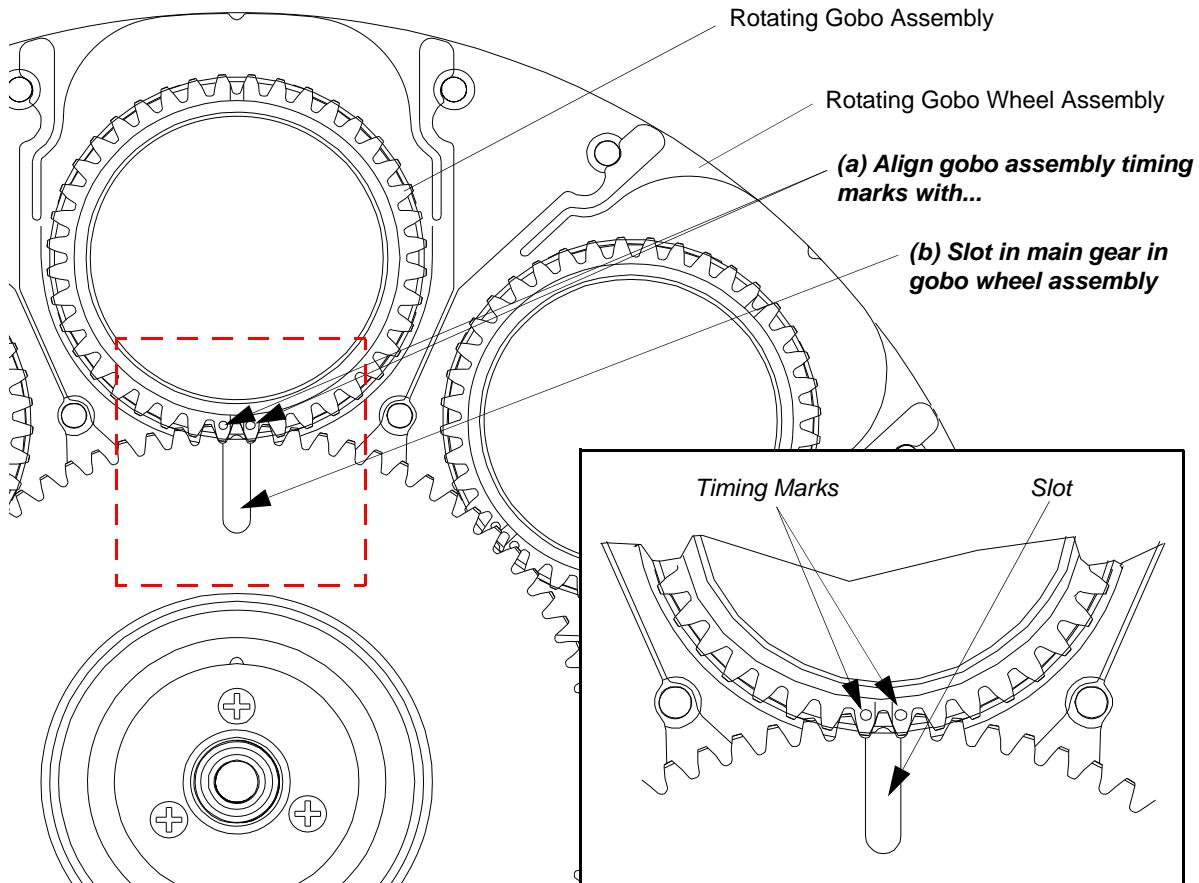

Figure A-8: Rotating Gobo Wheel - Gobo Clocking
Step 6. **Before installing gobo assembly into rotating gobo wheel assembly**, make note of relationship between carrier and main gear slot as illustrated in Figure A-8.